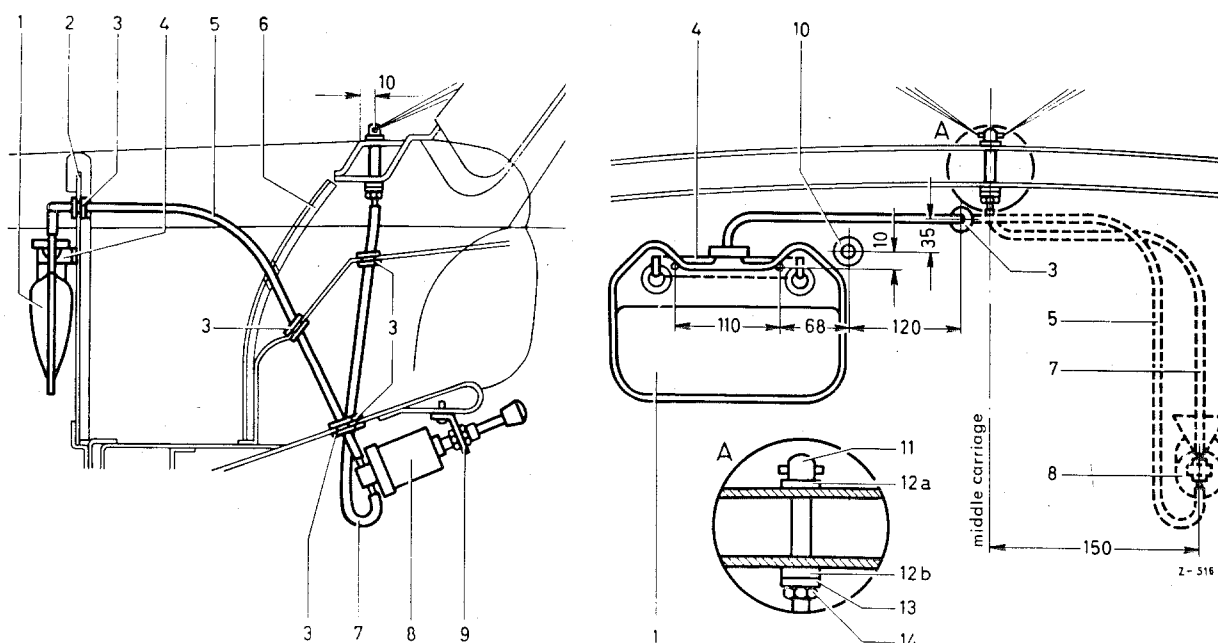

Fig. 67 — 5/1
1. Remove the upper center cowl insulating panel (6). In accordance with the specified locating dimensions, drill a 9.5 mm ϕ hole in the center line of the car for the installation of the spray nozzle. Deburr the hole (see Fig. 67 — 5/1).
2. Remove the clock (see Job No. 54 — 12). Slide the rubber washer (12a) and chromium-plated cup onto the spray nozzle and insert the spray nozzle (11). Slide on the rubber washer (12b), the cup (13), and screw on the hexagon nut (14). Then push on the water hose (7).